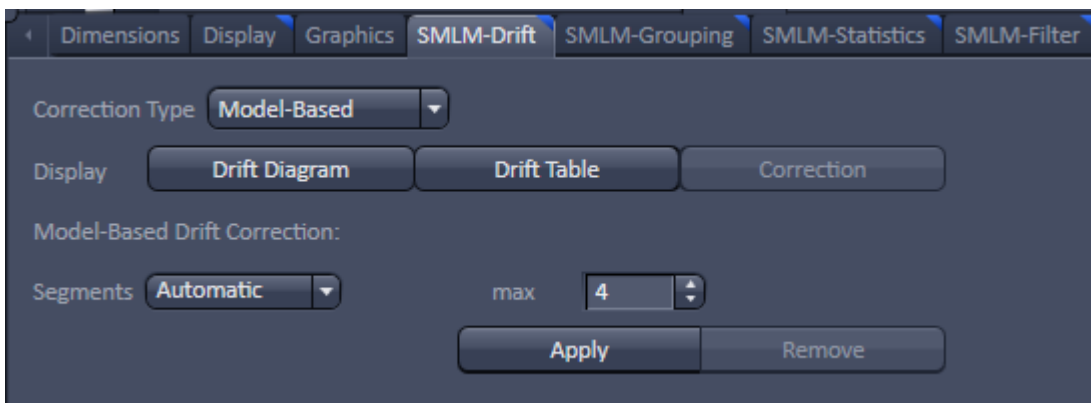

Fig. 603 SMLM-Drift view control tab of the SMLM view tab in Show all mode – Model-based selected as Correction type
- **Model-based**: drift correction will be performed on sample structures (image self-alignments) (Fig. 603)